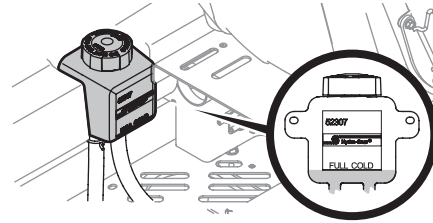

Figure 47
1. Pivot the operator's seat forward and clean the reservoir cap and the area around the cap to prevent debris from contaminating the transmission oil (Figure 47).
2. Turn the reservoir cap counterclockwise to remove, then check the oil level in the reservoir. Oil should be visible at the bottom of the cup, but the oil level must NOT be above the "FULL COLD" line (Figure 47). DO NOT FILL THE RESERVOIR.